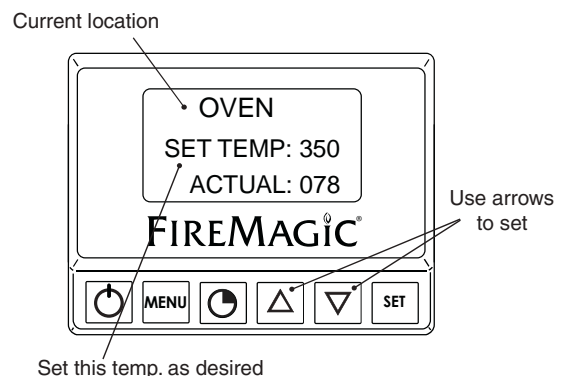

Fig. 24-4 Location temp. screen (oven shown)
2. The selected location's temperature screen will be displayed. Use the arrows to set the desired temp. The actual temp. will also be shown. (See Fig. 24-4)